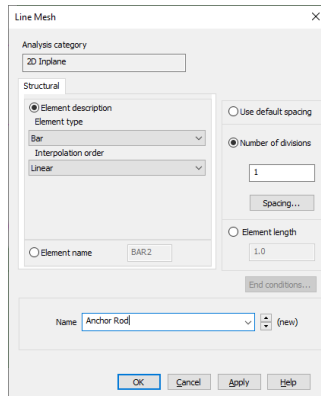

Figure 23: Anchor Rod mesh
**Note.** A single two-noded bar element is used to model the anchor rod: it is not possible to use three-noded bars or more than one bar element without forming a mechanism. 1m long three-noded bars are used for the grout. The mesh details are shown in figures 23 and 24.